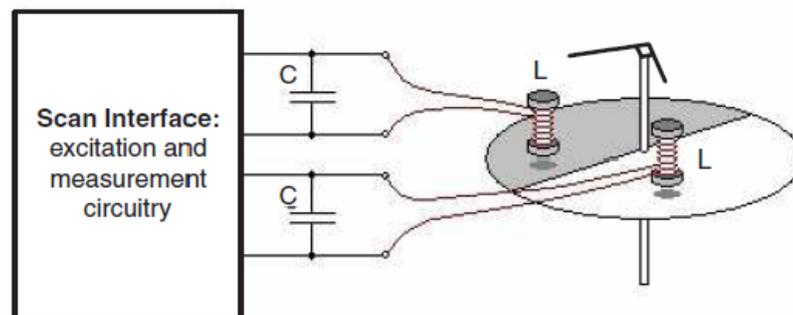

Figure 1. Rotation detection using two LC sensors
The motion or rotational measurement is carried out by sensing the position of a wheel via inductance-type measurements. Rotation and direction detection using two inductive-capacitive (LC) sensors is shown in Figure 1. A single LC sensor allows only for rotation detection. This configuration is used to measure fluid flow by transforming the flow into rotation. The mechanical construction in the form of a screw wheel or worm wheel transforms the flow into a corresponding rotation. The plate sitting underneath the two LC sensors has a metal surface on half of the plate while the sensors themselves sit 90 degrees from each other. The metal surface acts as a damping factor during half the period of the rotational sequence; the rotation measurement is carried out by detecting the different damping factors. The ESI module on MSP430FR6x MCUs detects the amplitude of the sensor input signal and defines the relative position of the wheel. Speed is obtained by a continuous sampling of the LC sensors and correlates to fluid flow.